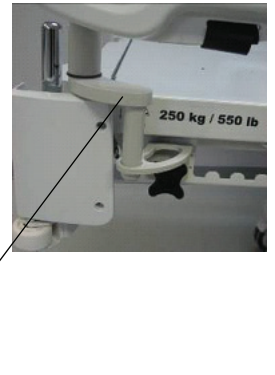

Figure 112 – Attaching the tray support
4. Attach the tray support pole into the bracket (F) and into the socket at the head end or foot end of the product (Figure 112).